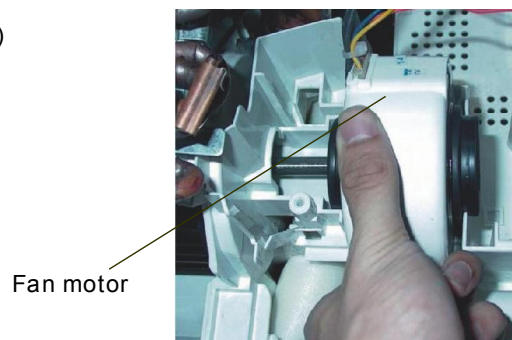

Fig 15
4. Lift up the indoor fan slightly, and then pull the fan motor out. (Fig. 15)